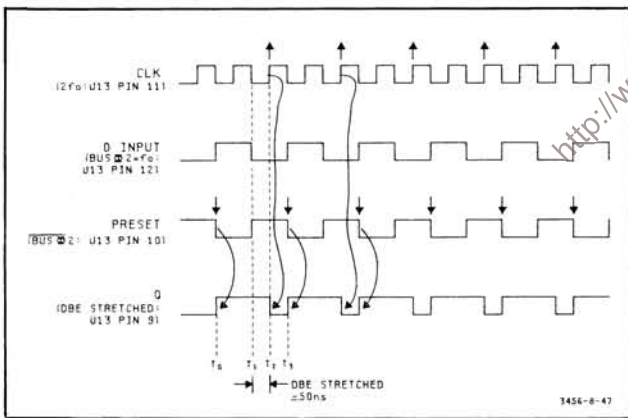
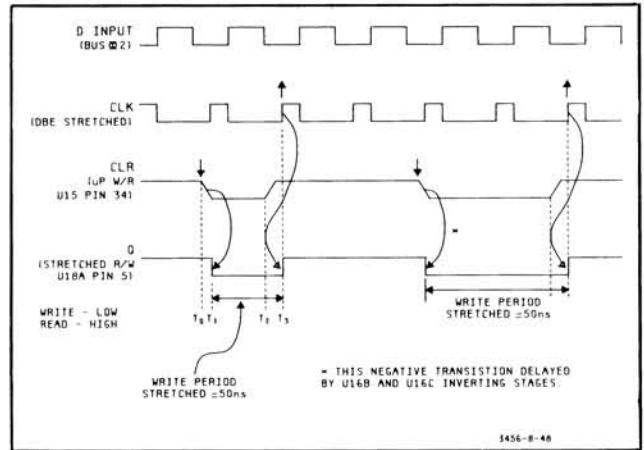
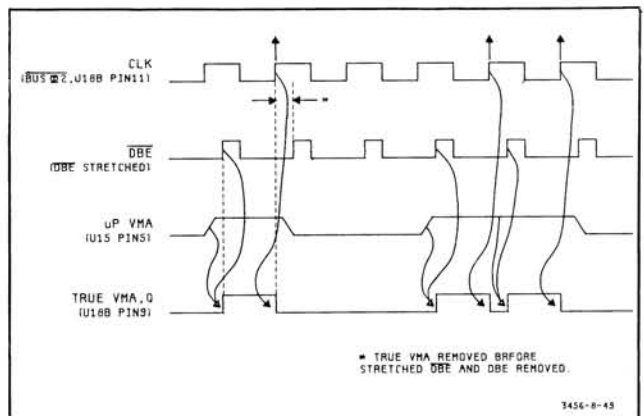
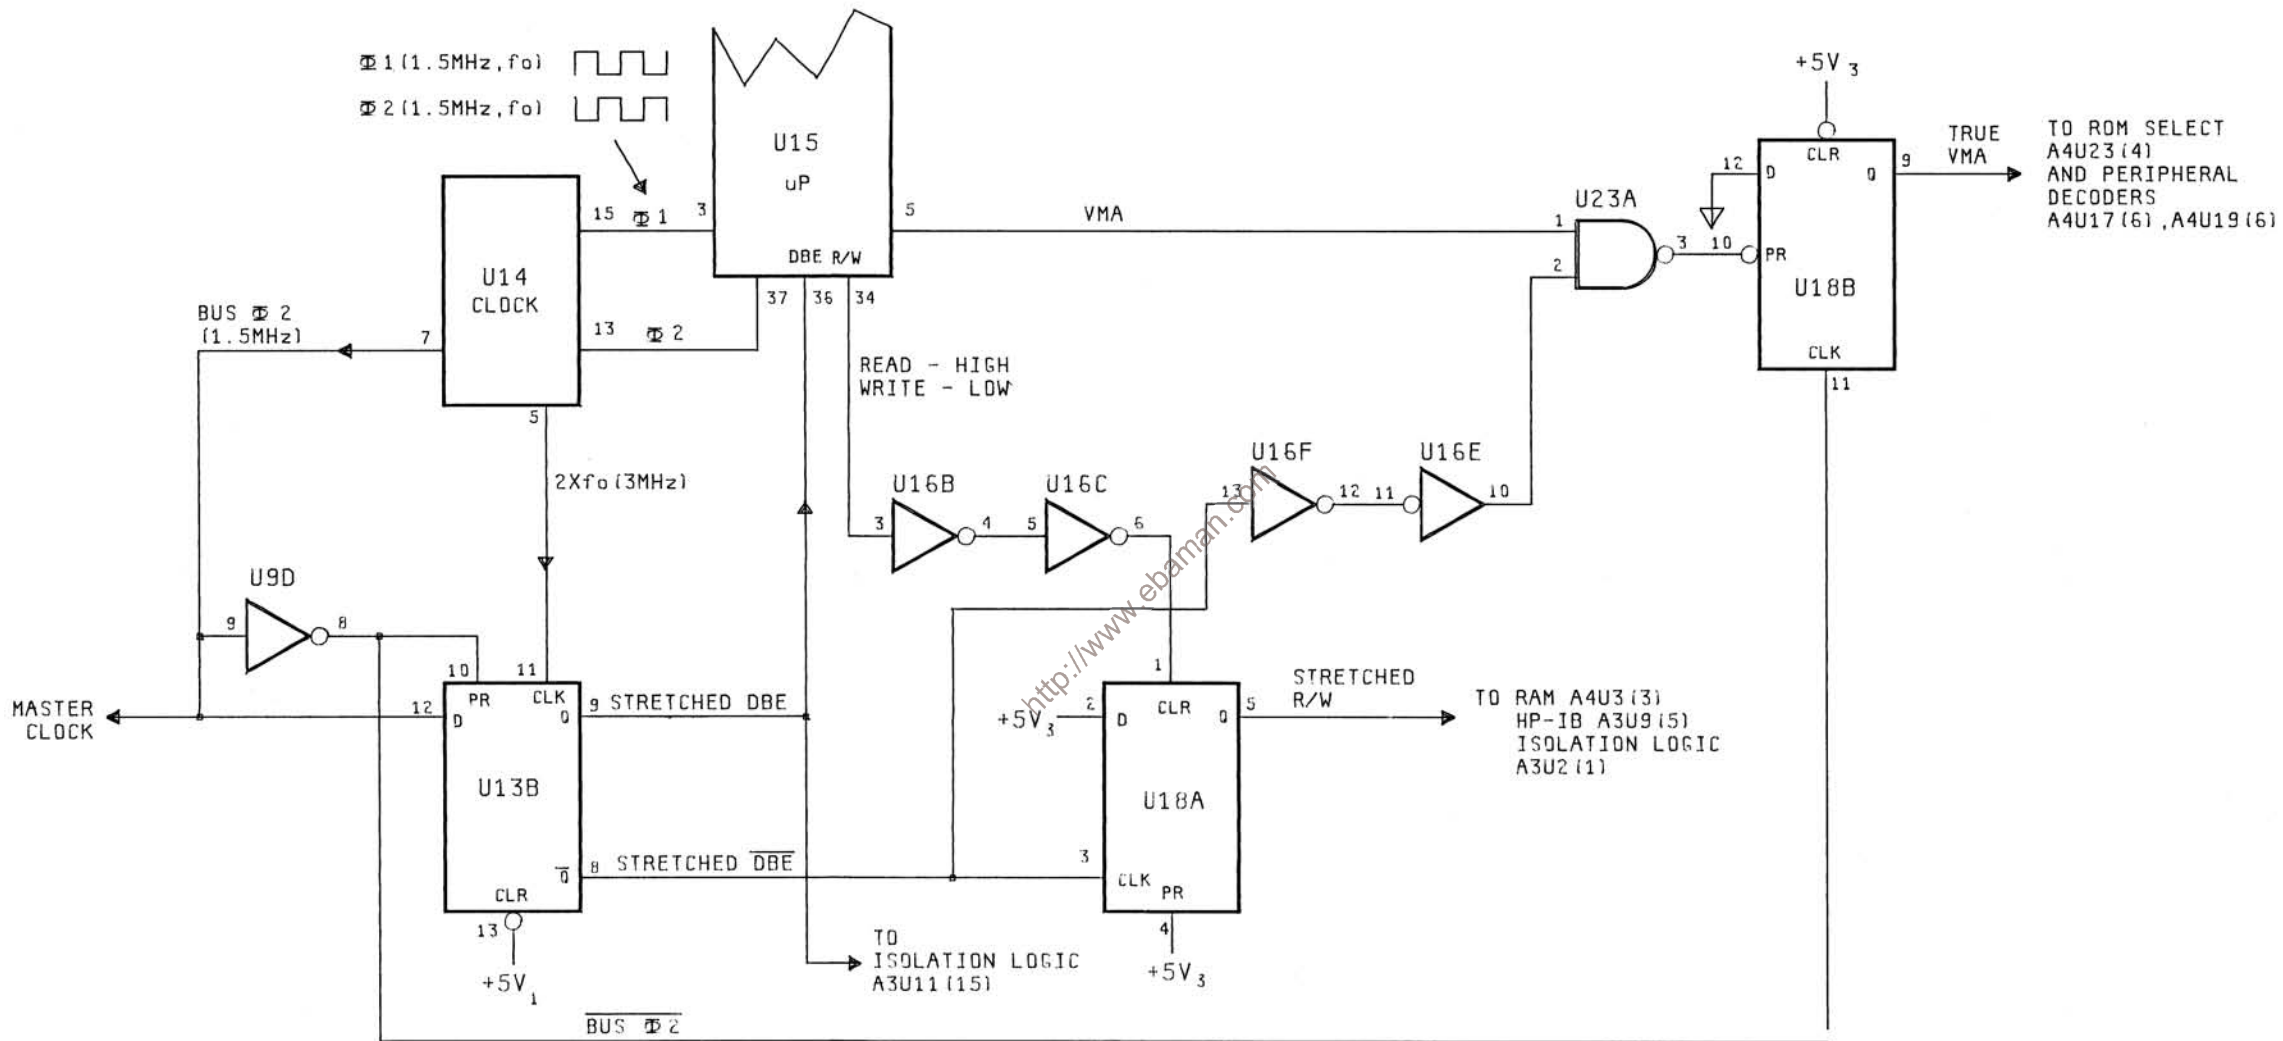

Figure 8-47. DBE Stretcher, Timing Diagram.
Figure 8-48. Write Going to Read Stretcher, Timing Diagram.
Figure 8-49. True VMA Generator, Timing Diagram.
Figure 8-50. Speed Compensating Circuits.
8-242. DBE Stretcher. The DBE input to the μP is normally the phase 2 (ϕ_2) clock. The Bus ϕ_2 (1.5 MHz, f_0) and $2 \times f_0$ outputs from U14, pins 7 and 5 respectively, (see Figure 8-50) are used in conjunction with U13b to generate a Stretched DBE. The Stretched DBE holds the data on the line longer (≈ 50 ns longer than the normal 10 ns) to assure reliable data transfer.
8-243. Refer to Figure 8-47 (DBE Stretcher, Timing Diagram) and to Figure 8-50 (Speed Compensating Circuits) for the following discussion. At T_0 time the preset input to U13b (neg. transition) sets the output (Q) of
8-244. Write Going to Read Stretcher. Refer to Figure 8-48 (Write Going to Read Stretcher, Timing Diagram) and to Figure 8-50 (Speed Compensating Circuits) for the following discussion. At T_0 time, the R/W line (U15, pin 34) goes low for a Write cycle. This negative transition is delayed by inverter stages U16b and U16c before it is applied to the clear input of U18a. This ac-
8-245. True VMA Generator. Refer to Figure 8-49 (True VMA Generator, Timing Diagram) and to figure 8-50 (Speed Compensating Circuits) for the following discussion. The VMA output from the μP has a 50-80 ns wide noise spike that could cause circuit problems. A regenerated VMA (True VMA) is delayed to eliminate the noise spike and shortened to prevent a potential racing problem. Racing is avoided by removing the peripheral select before the stretched $\overline{\text{DBE}}$ / $\overline{\text{DBE}}$ changes state. This allows extra time for the read, write, and data hold.